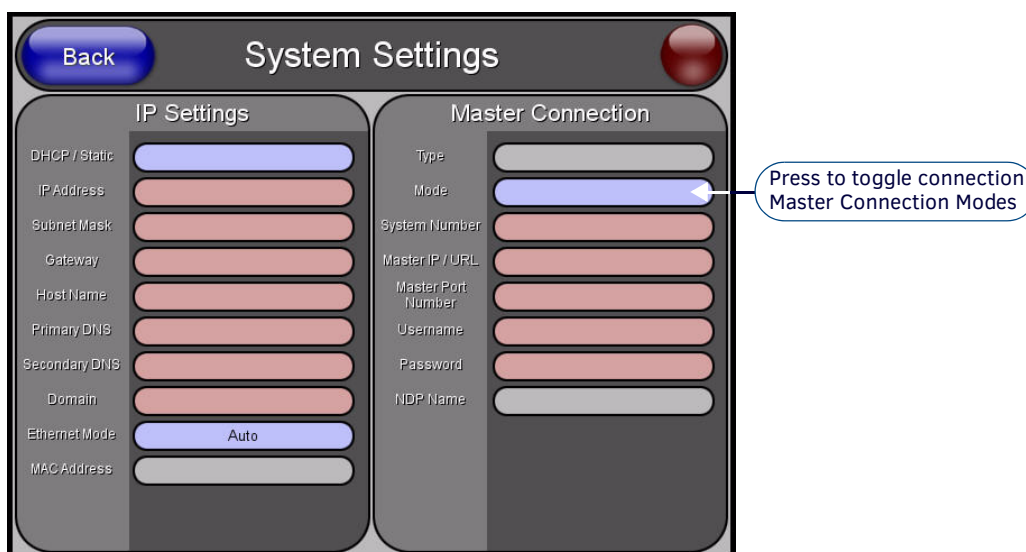

FIG. 80 System Settings page
- c. Press the **System Settings** button to open the *System Settings* page (FIG. 80).